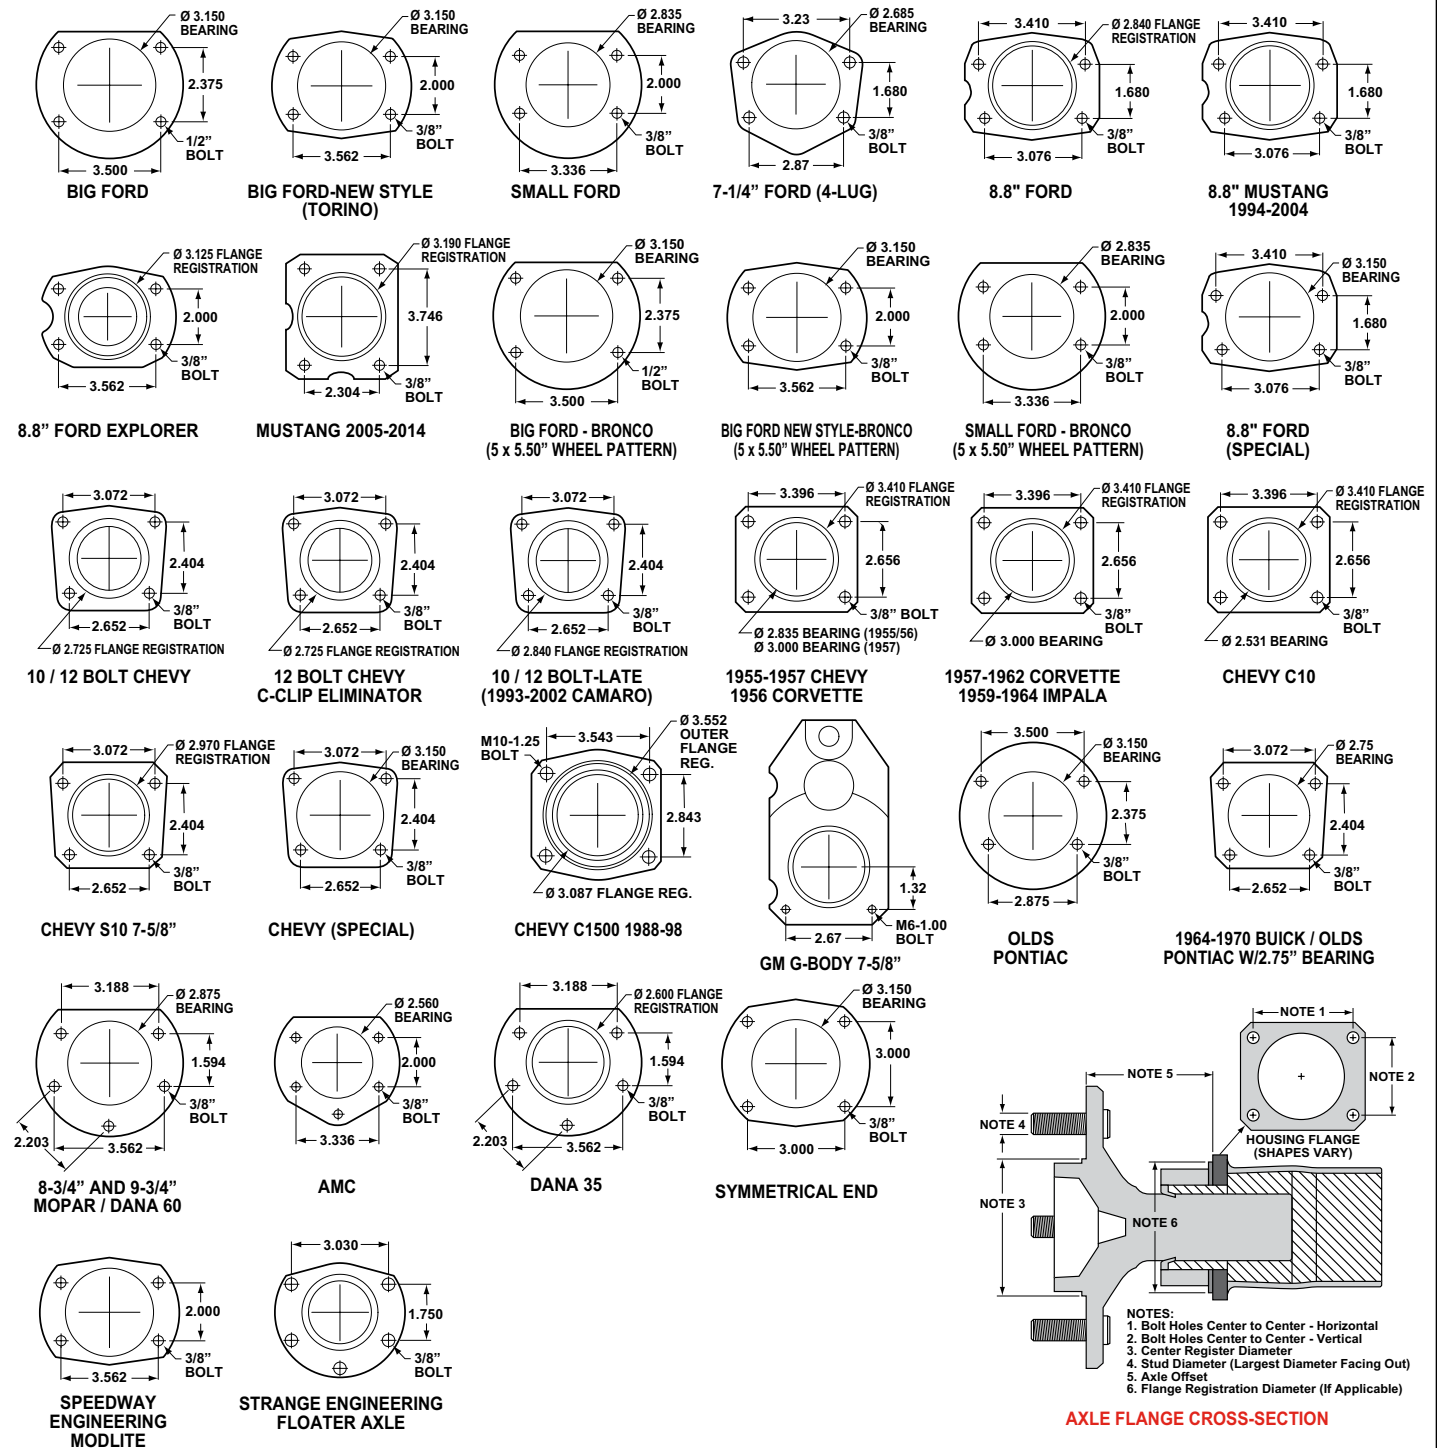

Figure 5. Rear Housing Flange Chart and Axle Flange / Offset Cross-Section
• Make sure this is the correct kit to fit the axle housing flange, not necessarily the rear end make. Many times aftermarket manufacturers put a different make of axle housing flange on the stock rear end housing (Figure 5). Example; Big Ford rear ends with Olds-Pontiac flanges, therefore, an Olds-Pontiac rear disc brake kit would be the correct kit to order.
- Dimension from wheel side of axle flange to wheel side of axle housing flange (see Figure 5, lower right hand corner). This dimension is critical to ensure proper alignment of the rotor to the caliper, and should match offset given in the kit description.